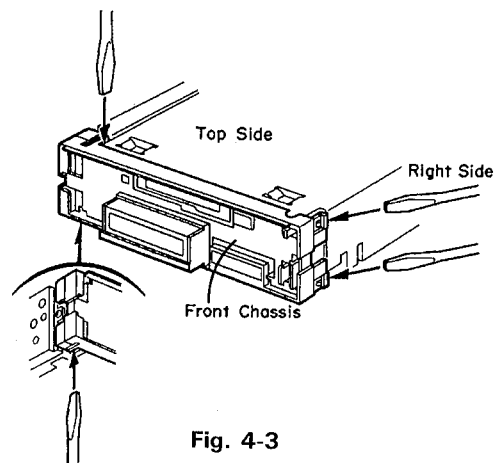

Fig. 4-3
- ◆ **Removing the front chassis** (See Fig. 4-3)